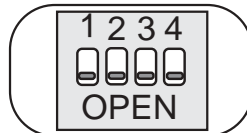

Figure 4-3. SW1 with All Switches Open
4. Open all switches to place the unit in normal weighing mode (Figure 4-3).